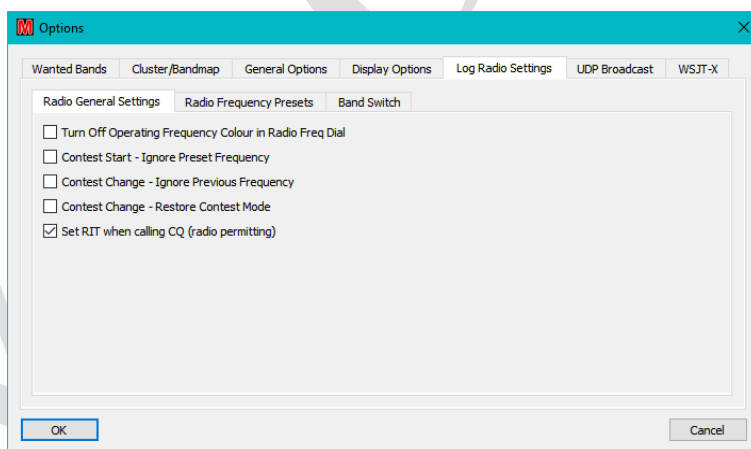

Figure 90 – Radio General Settings
- In ‘**Radio General Settings**’ (Figure 90) there are three options⁷⁹ to control the usage of band presets and per contest frequencies/modes: